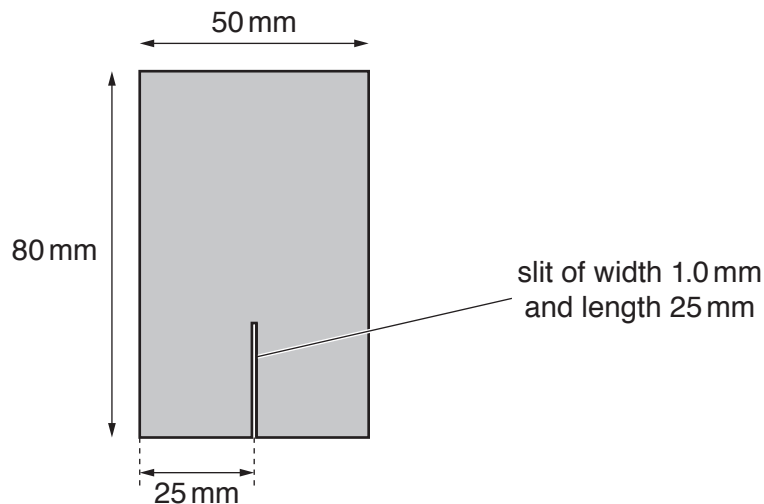

Fig. 3.2
2. A slit plate may be found in a ray box kit if one is available. Alternatively, the plate should be cut from a piece of rigid card into a rectangle of length 80 mm and width 50 mm. A slit of width 1.0 mm and length 25 mm should be cut into the card at 25 mm shown in Fig. 3.2.